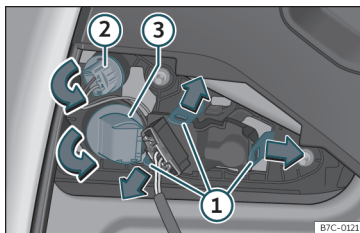

Fig. 94 Remove the bulb holder.
2. Unlock the securing tabs from the bulb holder >>> **Fig. 94 ①** or turn the bulb holder to the left **②** and **③**.